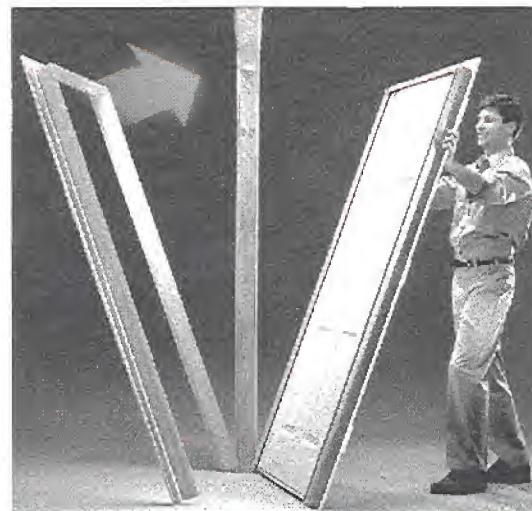

FIGURE 2
**ADVANTAGES:** A secondary frame allows simple installation and preservation of interior casings (Fig. 2). Replacement of the frame provides opportunity to improve the whole unit performance.